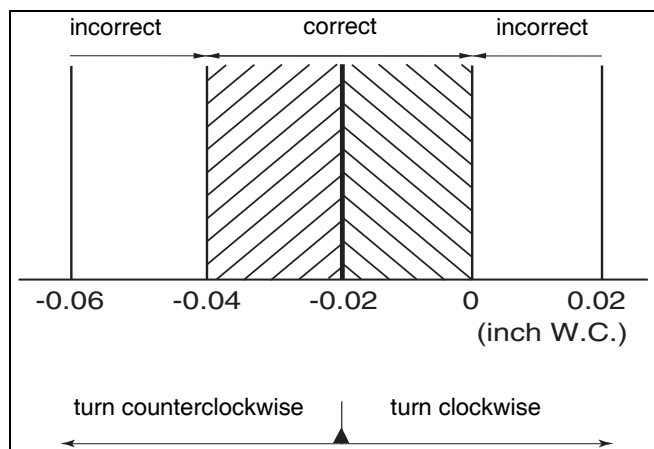

fig. 59 Differential pressure gas/air ratio part-load
- The differential pressure ($p_{\text{Gas}} - p_{\text{Air}}$) must be -0.02 inch W.C. (-5 Pa) (+/-0.02 inch W.C. = +/-5 Pa) (read-out on pressure gauge: -0.04 – 0 inch W.C. = -10 Pa – 0 Pa). See fig. 59.